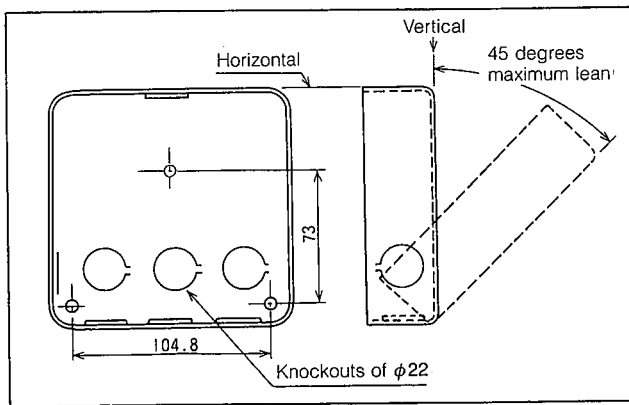

Fig. 3 Mounting the Subbase
Mount the subbase so that the top is horizontal and the back is vertical as shown in Fig. 3. The subbase may lean backward as much as 45 degrees if necessary.
- (1) Open knockout holes for conduits as required, as shown in Fig. 3, and attach wiring conduits there.
- (2) Fix the subbase at the specified position with screws.